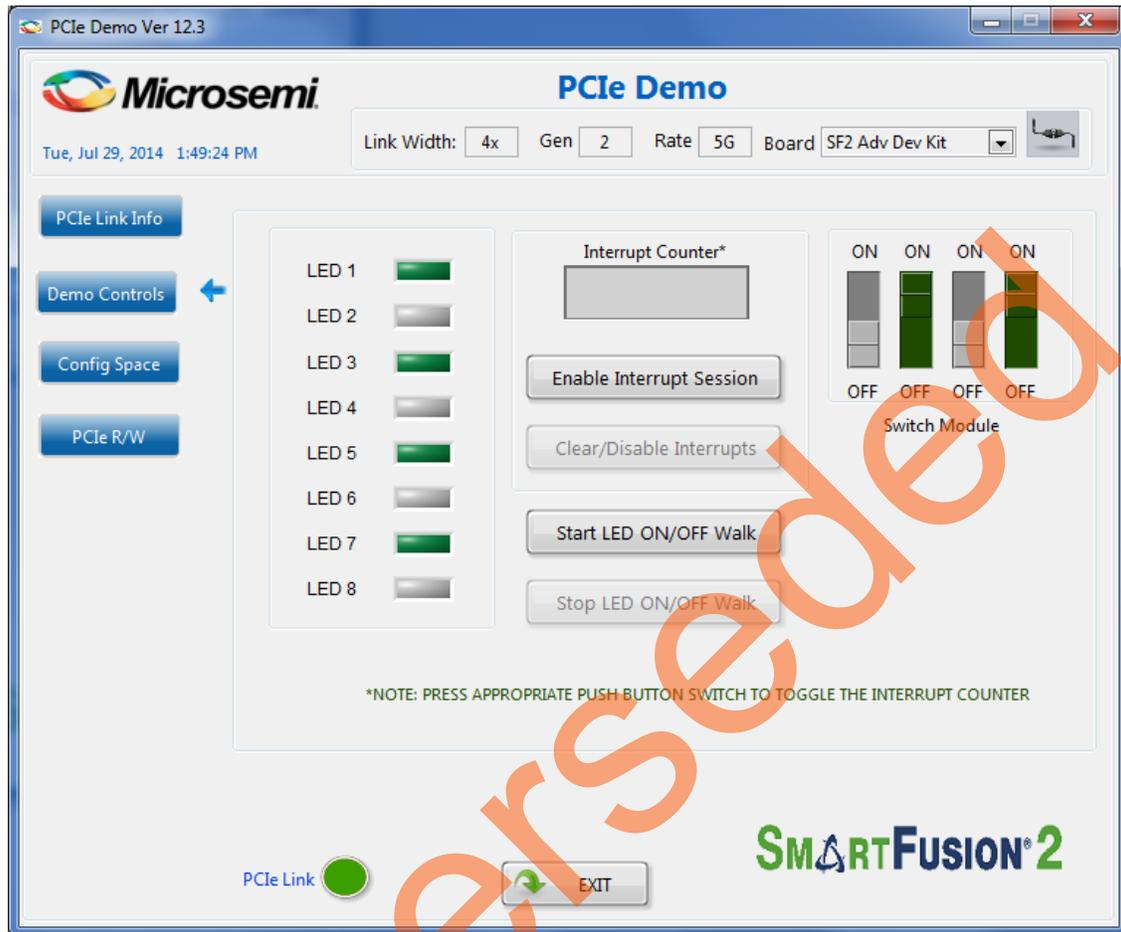

Figure 21 • Demo Controls
- Click **Demo Controls**. Figure 21 shows the LED options and DIP switch status.